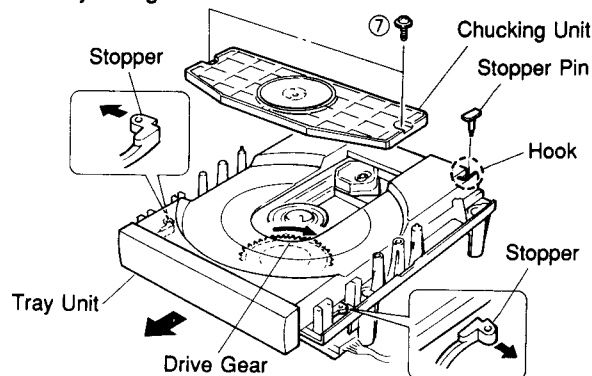

Fig. 3
- Remove 2 screws (⑦) and then remove the Chucking Unit in Fig. 3.
- Remove 1 hook and then remove the Stopper Pin in Fig. 3.
- Rotate the Drive Gear and then open the Tray Unit in Fig. 3.
- Detach the Stoppers on both sides and then pull out the Tray in Fig. 3.